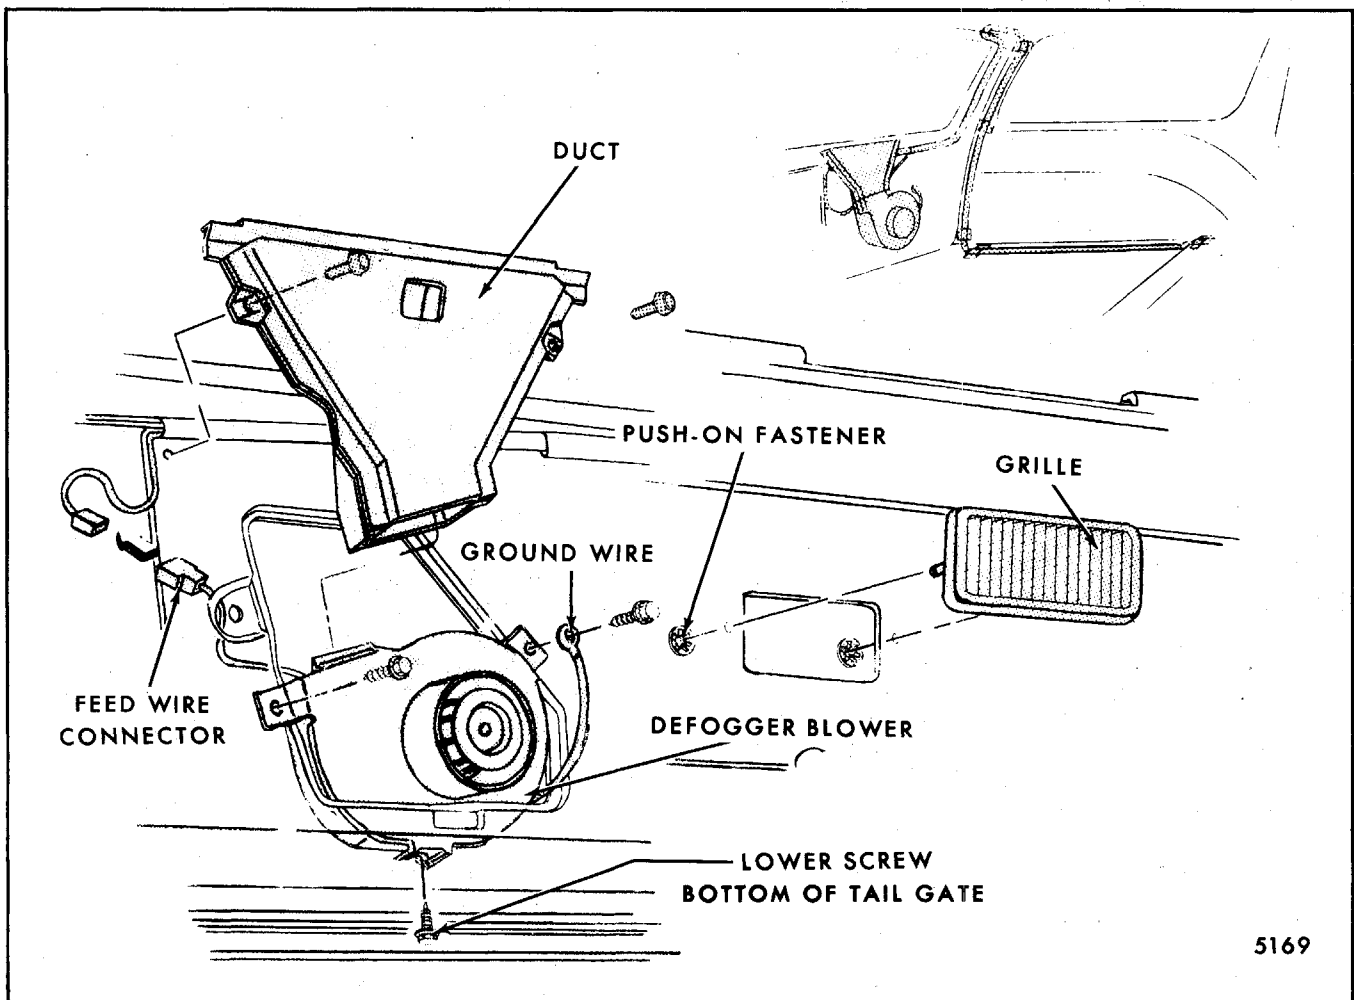

Fig. 7-108-Tailgate Window Defogger Installation
NOTE: To separate grille from inner cover panel, pry push-on retainers from grille studs (Fig. 7-108).
3. Remove screws securing blower to inner panel (lower screw accessible from bottom of tailgate) and lift from inner panel access hole and disengage wire harness connector (Fig. 7-108).